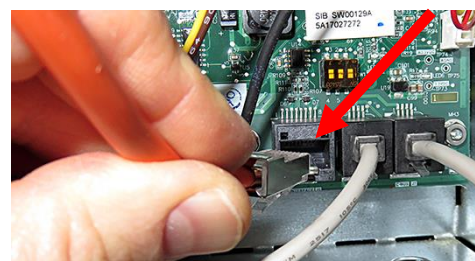

Figure 15
8. **Disconnect the RJ45 cable from the SIB board FIRST (see Figure 15).**